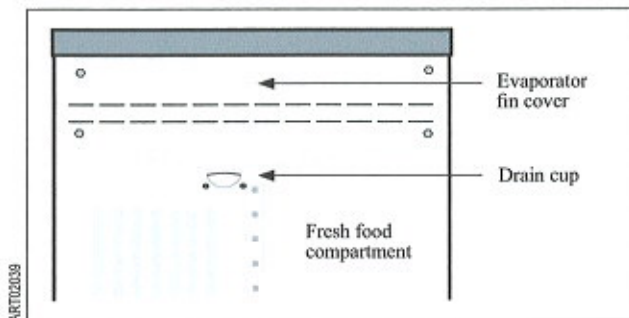

Figure 2. Evaporator Fin Cover and Drain Cup
5. Test the drain tube for flow by pouring water into the defrost drain cup in the fresh food compartment. Refer to Figure 2.
1. Use a Phillips screwdriver to remove the two screws that hold the drain cup in place below the evaporator cover in the fresh food compartment. Refer to Figure 2. Pull to remove the drain cup, and lay the screws and cup aside.